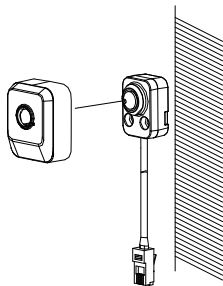

Figure 2-12 Hood the Cover
- Shield the sensor unit with the decorative cover. As shown in Figure 2-12.